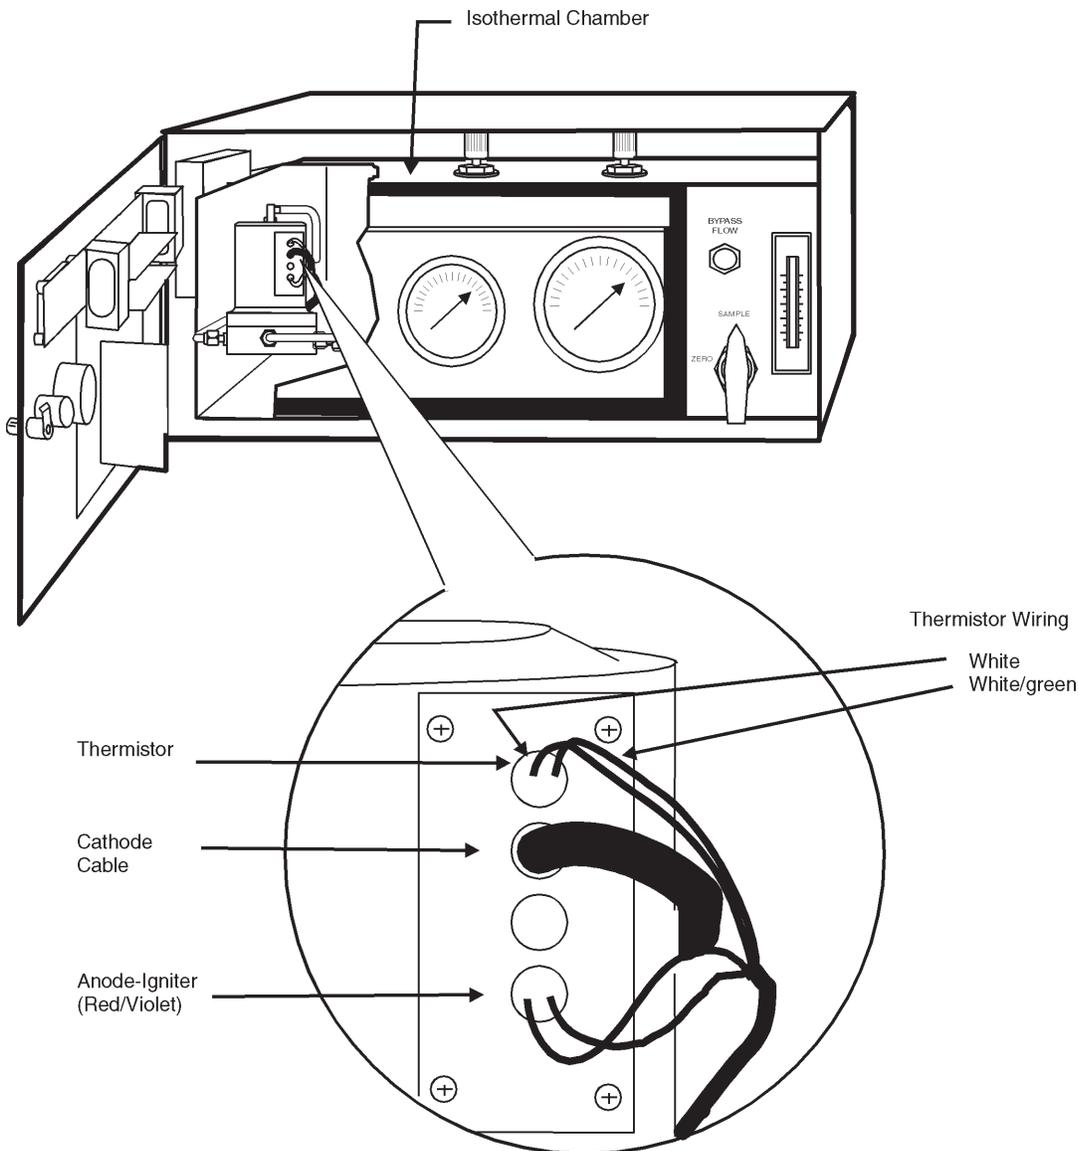

Figure 5-2: Identification and Location of Thermistor and Wires
Consult the 402R-EU schematic and assembly drawings, as well as the temperature control PC board schematic and assembly drawings at the rear of the manual for circuit details and component placement. See also Figures 5-2 and 5-3 for the location of the Temperature Controller PC Board.
3. Check the sensing thermistor by measuring the resistance between its connecting wires. See Figure 5-2. Disconnect one of the thermistor wires from terminal strip TS-2 (terminals 1 and 2) on the mother board and measure resistance between that
1. Disconnect connector J3 (4 sockets) from connector P3 (4 pins). These are one of the large pairs of connectors just outside of and to the left of the isothermal chamber. See Figure 5-2.
In addition, connector J1 is used with the Model 402R-EU; J1 plugs onto the electrometer amplifier PC board. These are shown in Figures 5-2 and 5-3.